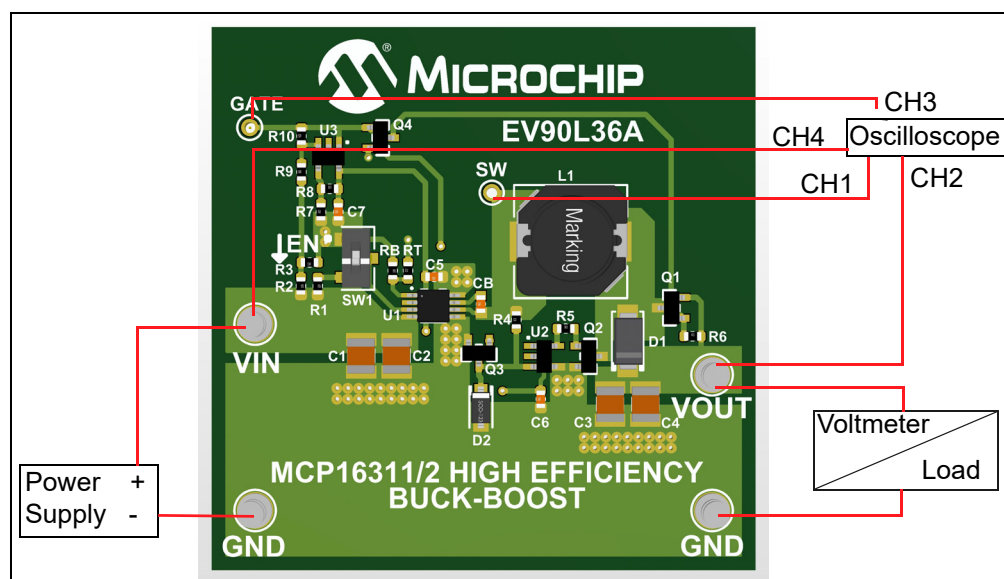

FIGURE 2-4: MCP16311/2 High Efficiency Buck-Boost Converter Reference Design Board Test Setup
1. Connect the power supply, voltmeter, ammeter and the load as shown in Figure 2-4. Set the ammeter to the 10A range (or to a range between 5A and 20A).